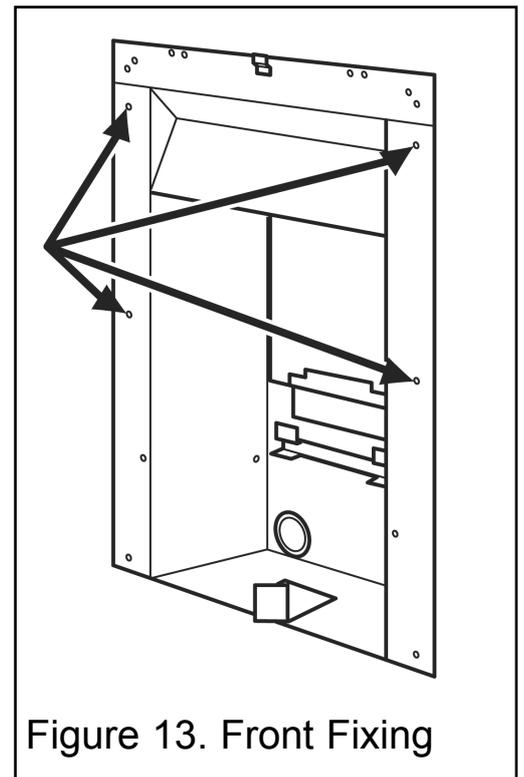

Figure 13. Front Fixing
3. Mark the fireplace front surround through the four fixing holes in the side flanges of the hotbox. See figure 13.